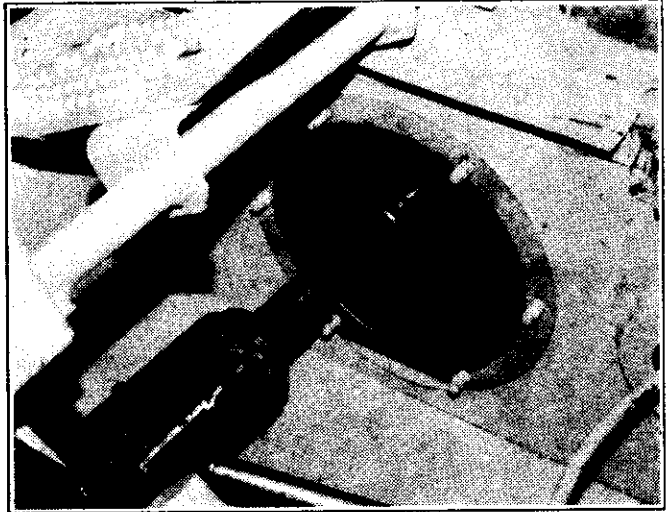

Figure 6-14
6. A slight impact is usually needed to remove the axle from the inner bearing. A slide hammer mounted to the axle hub works best. A hydraulic jack or porta power may be used to push the axle out of the bearing. (See figure 6-14)